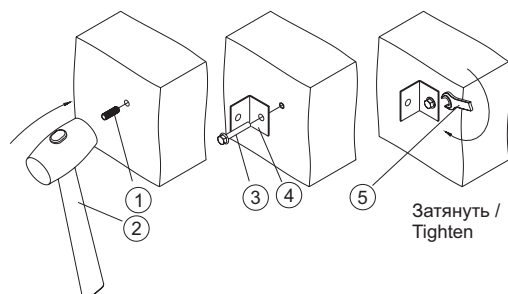

Рисунок A.2 / Figure A.2
1.2.3.8 Mounting of steel and brass anchors (figure A.2):